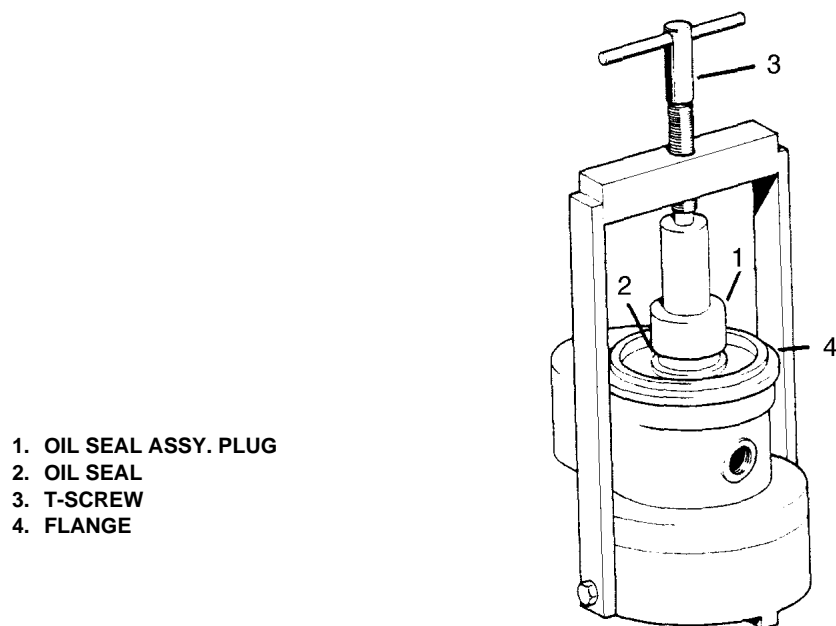

Figure 8-12. Position of Magneto on T-100 and Oil Seal Installation
f. Insert the base plate (T-117) and the adapter plate bushing (T-119) into the base of the T-100 assembly and timing tool. Assemble both ball bearings on the rotor shaft, making sure the grease shield of each bearing is toward the magnet. Place the rotor shaft into the base plate, threaded end down, (See Figure 8-12.) Using bearing assembly plug (T-101), turn the T-screw down until both bearings are seated tightly against the shoulder on the rotor shaft. Remove the base plate (T-117) and adapter plate bushing (T-119).
j. Reverse the magneto on the T-100 assembly and timing tool so the flange of the magneto is facing up, (Refer to Figure 8-12.)